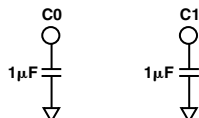

Figure 18. External Filter Capacitor Connections
Figure 18 illustrates signal-path filtering capacitors, C0 and C1. The AD1849K must use 1.0  $\mu\text{F}$  capacitors.
- The Analog Devices AD1849K uses two external capacitors to complete its internal input filter as shown in Figure 18. The CS4215 calls the two pins on the AD1849K for these capacitor connections, “no connects.” By laying out a board with these capacitors, either chip will work.